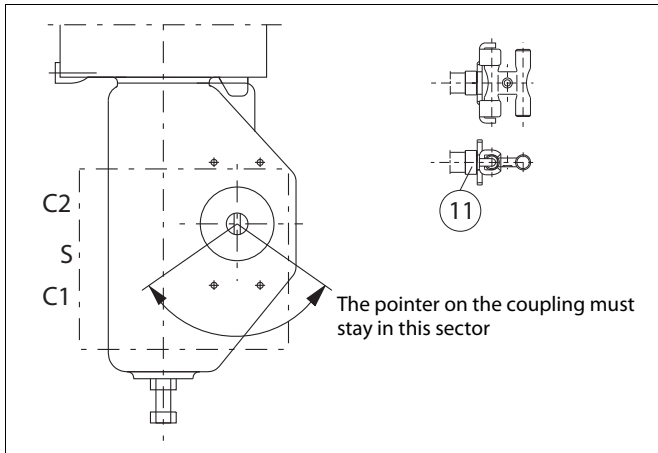

Fig. 5 Mounting on Metso actuator with VDI/VDE mounting face
- ❑ Mount the H-shaped coupling (47) to the shaft. Apply the thread-locking compound to the screw (48) and tighten firmly.
- ❑ Remove all protective plastic plugs from the pneumatic connections (5 pcs.). Mount the metal plugs (54) with sealant to the unused controller connections at the bottom of the controller.
- ❑ **BJ and other single acting actuators:** mount a metal plug (53) with sealant to the C1 connection.
- ❑ Set the direction arrow of the actuator in the direction of the valve closure member and attach the ear (2) to the indicator cover in the position shown in Section 12.6-12.7. Secure the screw of the ear using e.g. Loctite and tighten firmly.
- ❑ Attach the bracket (1) to the ND.
- ❑ Attach the bracket (1) to the actuator. The shaft coupling of the ND must fit into the ear (2) so that the pointer of the shaft washer (16) is located in the position shown in Fig. 5.
- ❑ Remove the protective plastic plugs from pneumatic connections C2, S and C1. Leave the metal plugs (54) in the unused connections at the bottom of the controller.
- ❑ **BJ and other single acting actuators:** install a metal plug (53) with sealant to the C1 connection.
- ❑ Attach the bracket (1) to the controller.
- ❑ Attach the bracket (1) to the actuator. The shaft coupling of the controller must fit into the ear (2) so that the pointer is located in the position shown in Fig. 5.